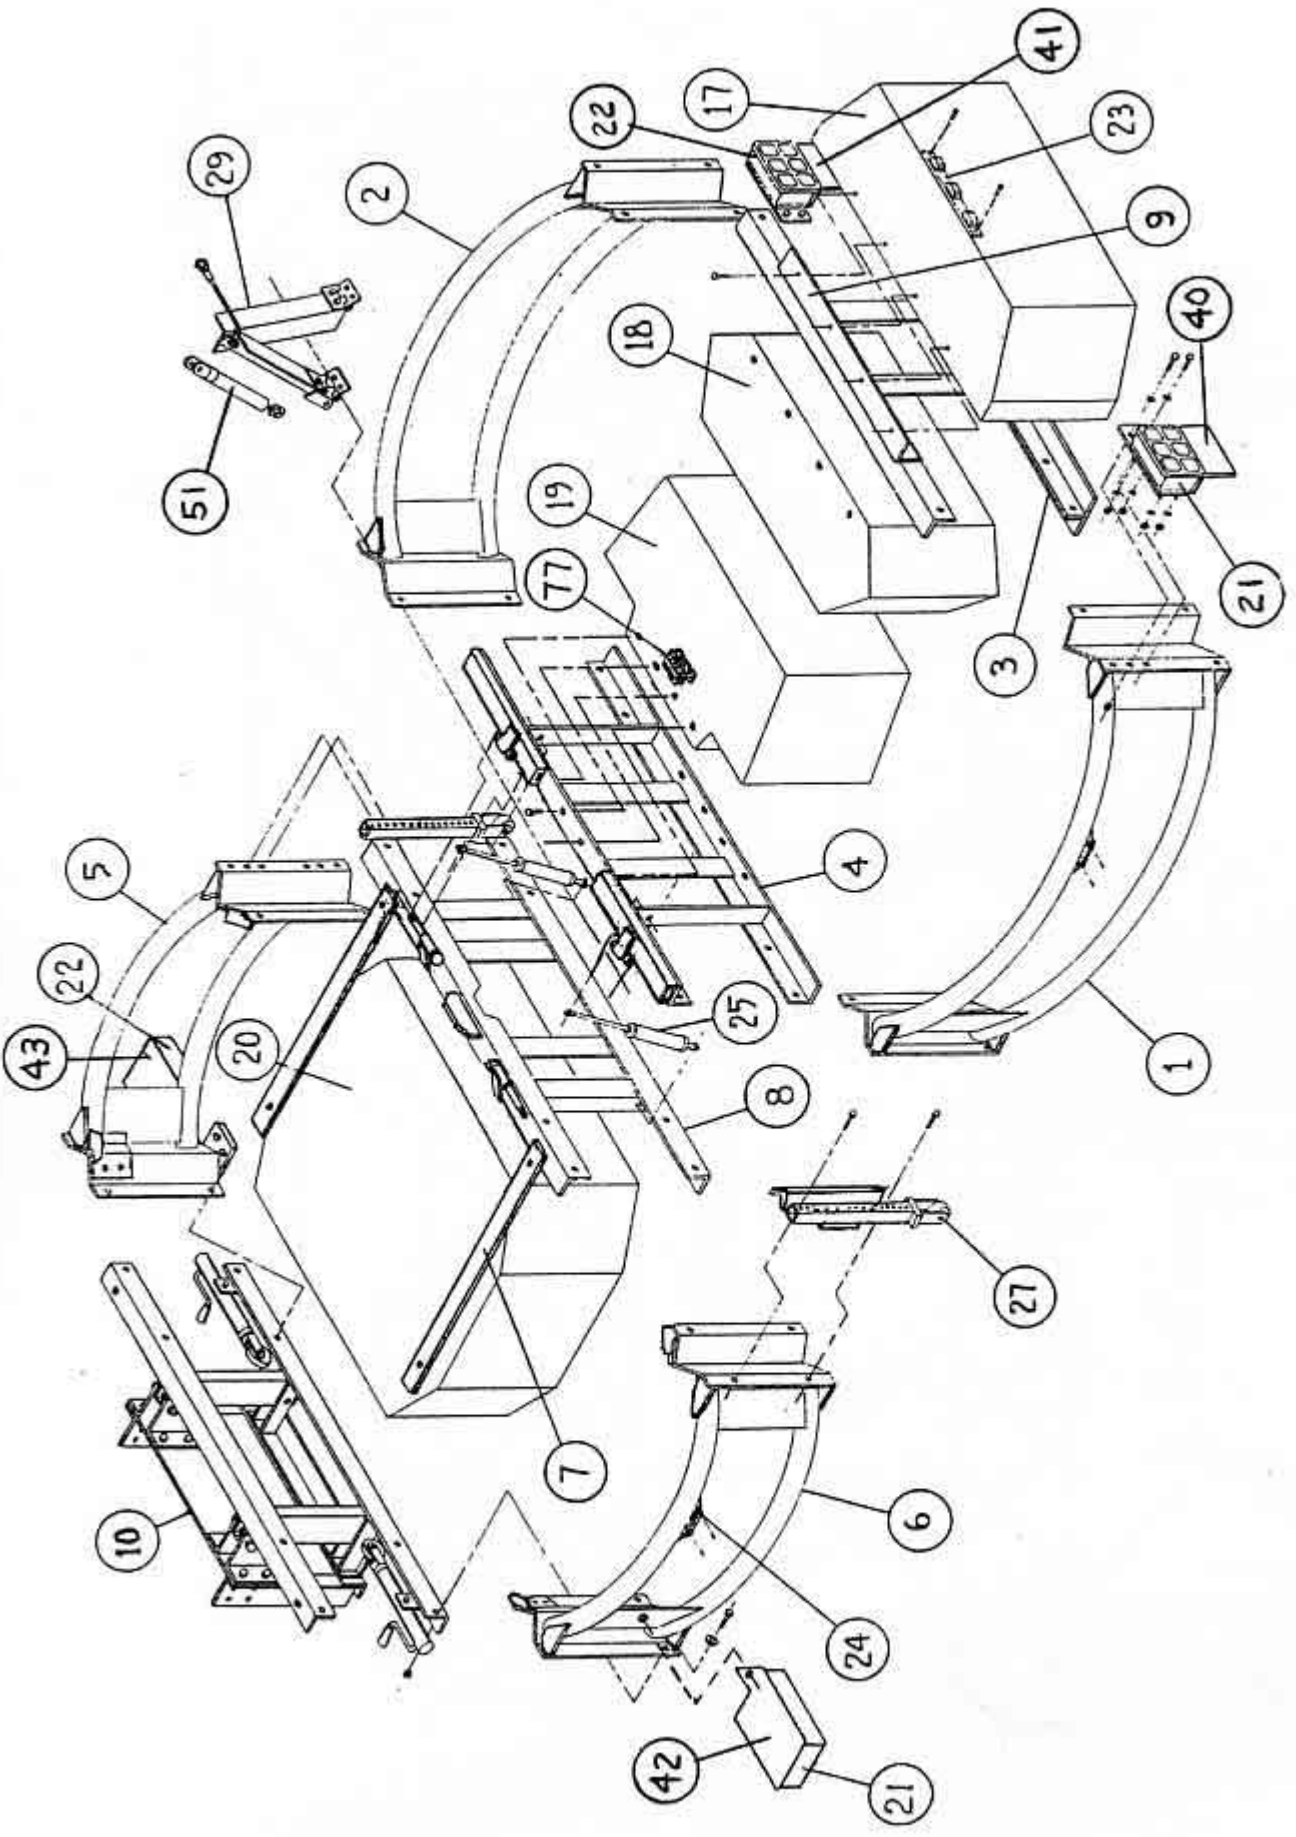

Fig. 9 – Scorpion TMA Model B or C (TL-3) Exploded View
**1.1 Part Numbers** – The complete TMA system is ordered using part number 10,000. A model designation of A, B, or C is used to distinguish the TL-2, the TL-3 with 10° strut tilt, and the TL-3 with 90° strut tilt. Fig. 9 is an exploded isometric view showing a TL-3 TMA.